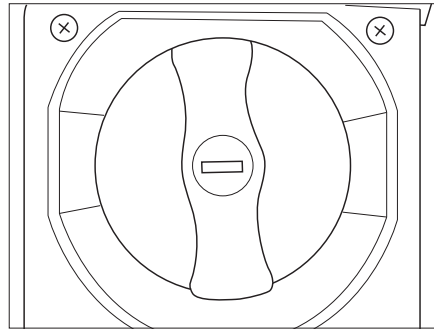

Fig. 73 Fresh water tank filler opening
- Fill the fresh water tank via the filler opening by means of a suitable filling hose or canister (Fig. 73).